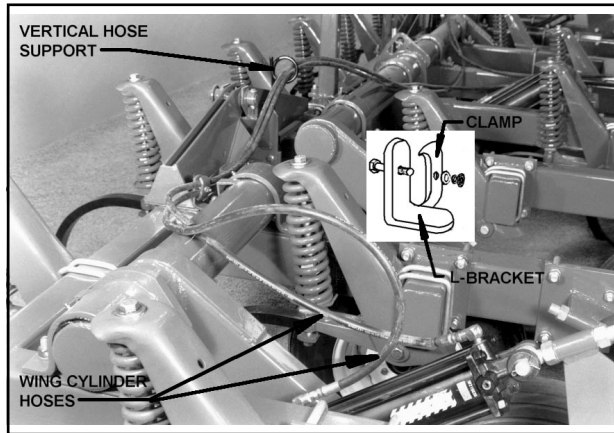

Figure 3-34 - Rear of RH Wing
- e. Thread wing lift cylinder hoses and cutter frame lift cylinder hoses through vertical hose supports during assembly (See Figures 3-34 and 3-35).
- f. Attach L-bracket to rear bolt of wing rock-shaft inner bearing. Fasten wing lift cylinder hoses to L-bracket with clamp and 3/8" x 2" cap screw, lock washer and nut (See Figure 3-34).